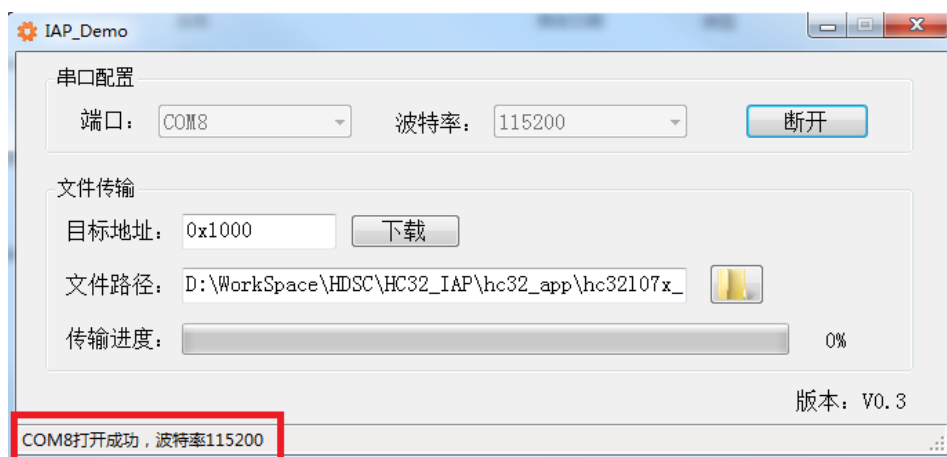

Figure 6 Serial port module connection
- 5) Power on the STK board, connect the serial port module to the MCU and the computer, select the correct port number in the software interface, set the baud rate to 115200, and click Connect. If the connection is successful, information similar to the red box in Figure 6 will appear.